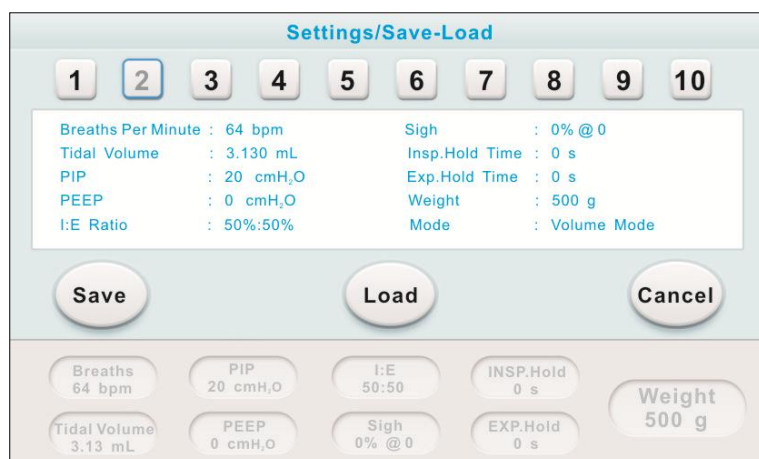

Figure 7.8
- When a current ventilation parameter needs to be stored, users can press the **Save-Load** button (see Figure 7.8). Select a group number (1 to 10), then press **Save** button; when a stored ventilation parameter is needed, user can press **Save-Load** button (see Figure 7.8), Select the corresponding group number (1 to 10), then press the **Load** button.